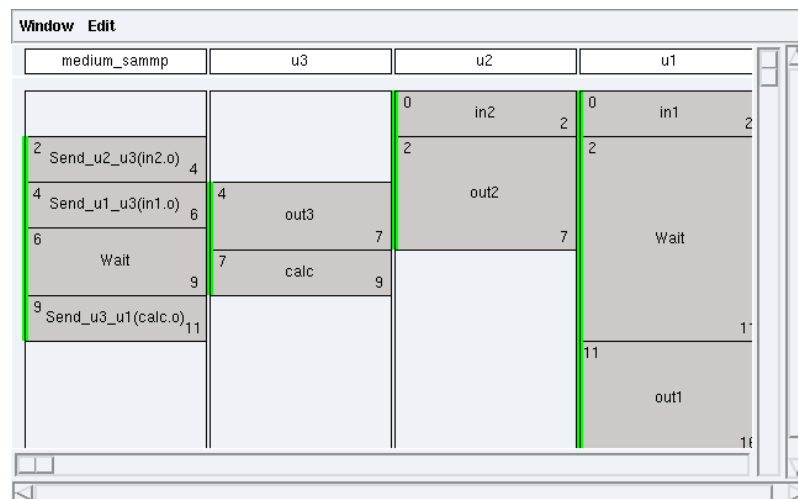

Figure 1.26: Schedule with constraints
- from the main window, to perform the adequation with constraints: **Adequation / Launch Adequation**, then **Adequation / Display Schedule** → schedule window. The schedule looks like the figure 1.26.